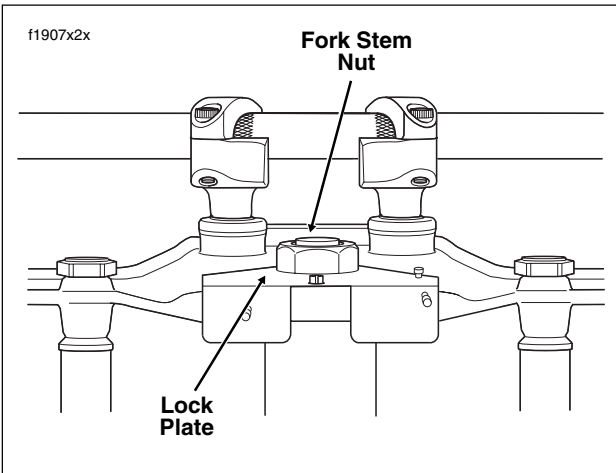

Figure 2-88. Fork Stem Nut
3. Bend tab on lock plate away from flat of fork stem nut. Loosen the fork stem nut. See Figure 2-88.
2. Install upper fork bracket and fork stem nut. Tighten nut to 60-80 ft-lbs (81-109 Nm). Bend the lockplate tab against the nut flat. See Figure 2-88.